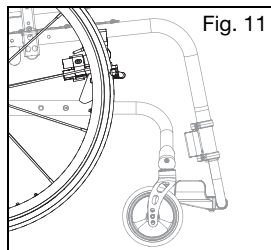

Fig. 11
4. Test the new wheel lock positioning on a flat level surface. Once the wheel locks are engaged, the wheels should not slip or move. If the wheel locks are not fitted properly continue to step 5. See Fig. 11.